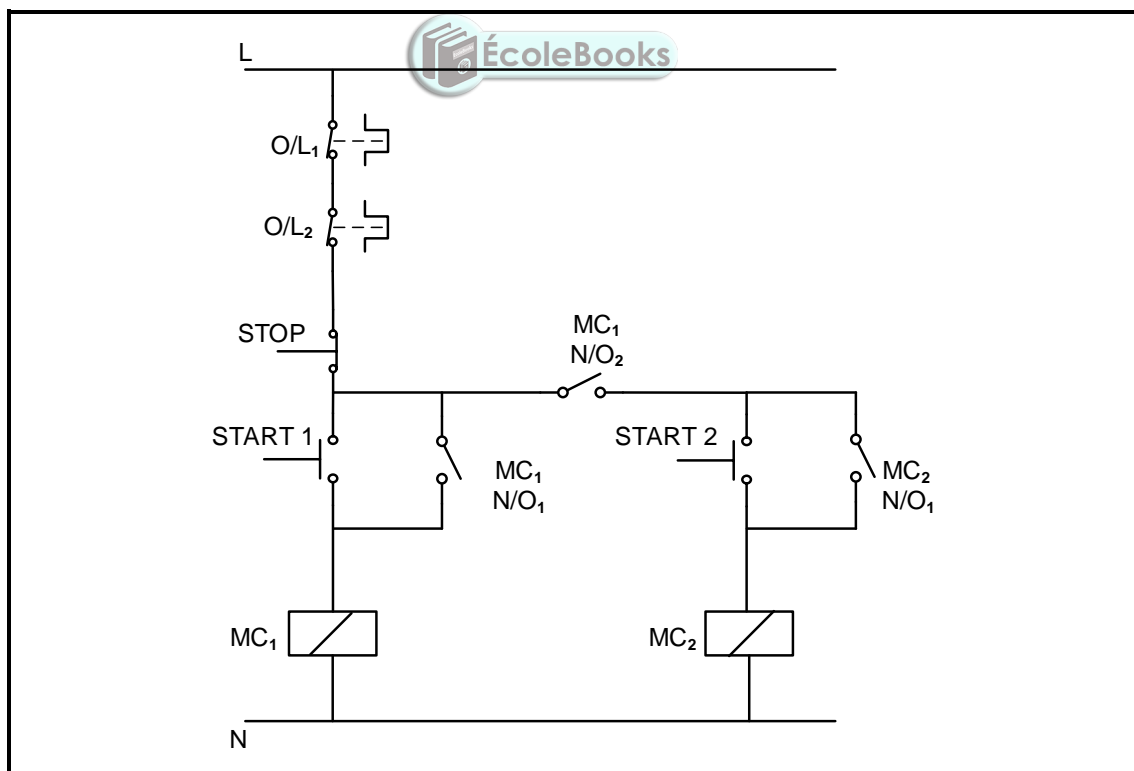

FIGURE 6.4: MANUAL SEQUENCE STARTER
6.4 Refer to FIGURE 6.4 below and answer the questions that follow.